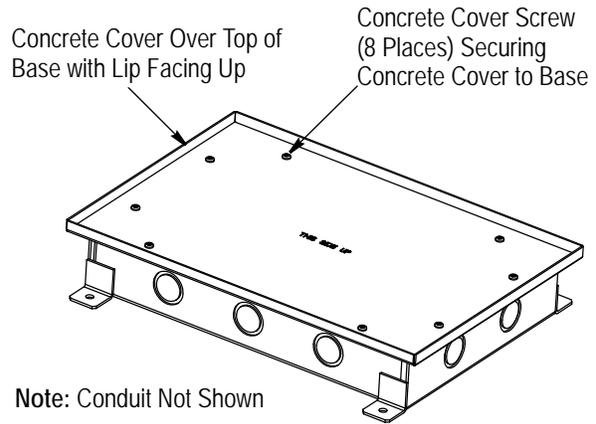

Figure 3
5. Place the concrete cover, with the lip facing up, over the top of the base as shown in Figure 3. Secure the concrete cover to the base using the eight concrete cover (10-32x3/8-in. pan head) screws.